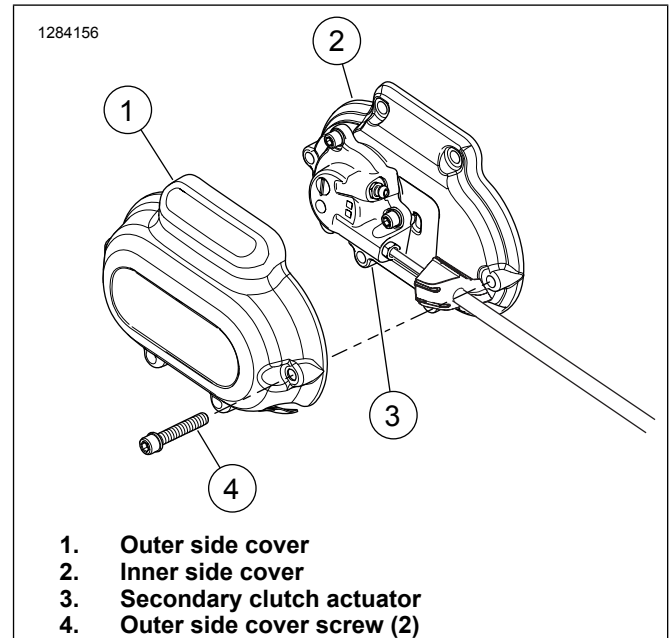

Figure 8. Transmission Outer Side Covers
1. See Figure 8. Install outer transmission side cover.
- a. Install outer cover (1).
- b. Install screws (4). Tighten.